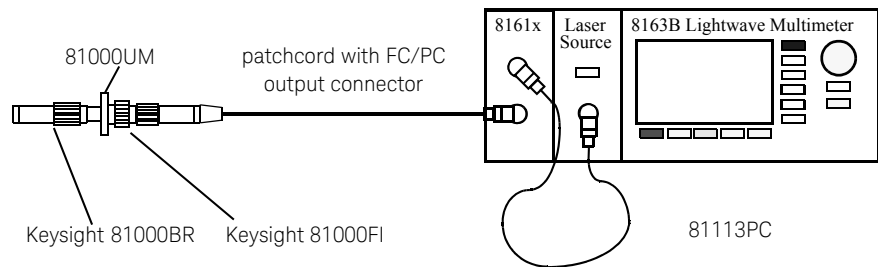

Figure 107 Reflectance Calibration - External Source
- 1 Making sure all the connectors are clean, set up the instrument as shown in Figure 107 on page -189 if you are using an External Source.